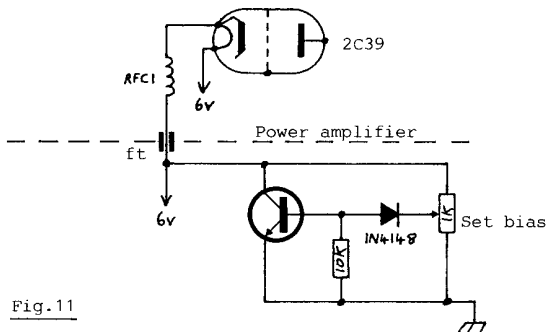

Fig.11
The circuit shown in Fig.11 has a bias range which will control the valve from virtually zero output to its maximum. If the valve is to be run in a fairly linear manner, with only around say, 20 to 30mA of standing current, then a 2N1613 or similar TO-5 can transistor is all that is required. If however the valve is to be run nearer to class C (FM) then a larger transistor such as a 2N3054 or 2N3055 will be needed. The 1k potentiometer may be panel mounted if required.